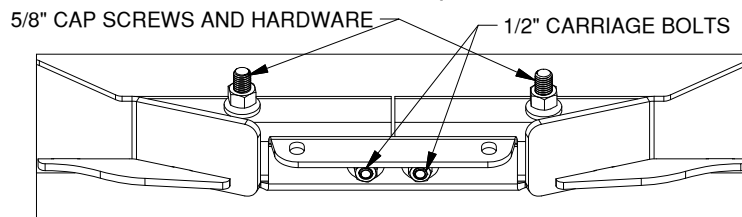

Figure C5: View looking up under the bed.
5. **Secure the cross member brace.** Locate two 5/8" x 4-1/2" cap screws, 5/8" flat washers, and finish nuts. Temporarily install the 5/8" hardware into the large holes in the cross members and the brace as shown in Figure C5. Tighten the 5/8" cap screws enough to ensure that the brace and the cross member tubes are flush. Tighten the two 1/2" nuts on the bottom of the cross member brace until the lock washers start to flatten. Remove the 5/8" cap screws and hardware.